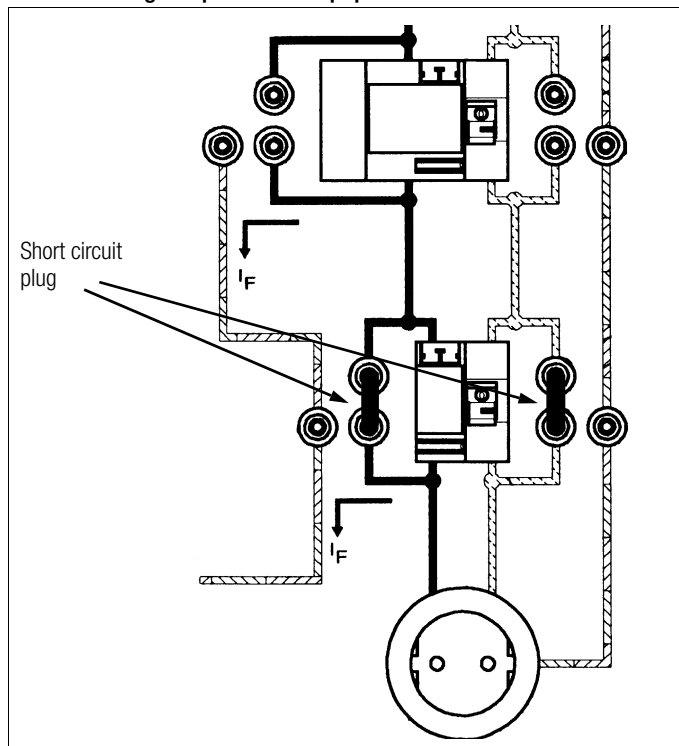
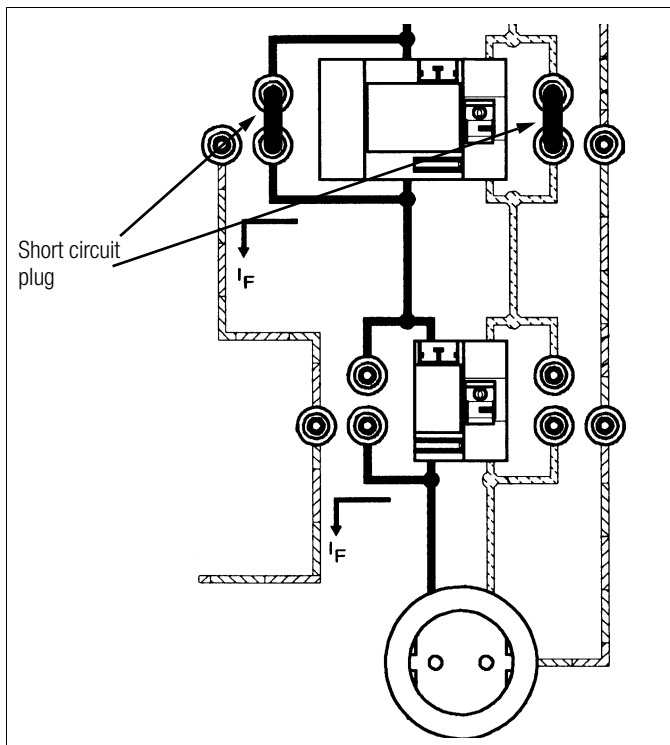

figure 7.1-1 Selective FI switch 300 mA
figure 7.1-2 FI switch 30 mA
- ⇨ Remove both short circuit plugs at the FI switch to be tested [figure 7.1-1 and figure 7.1-2].